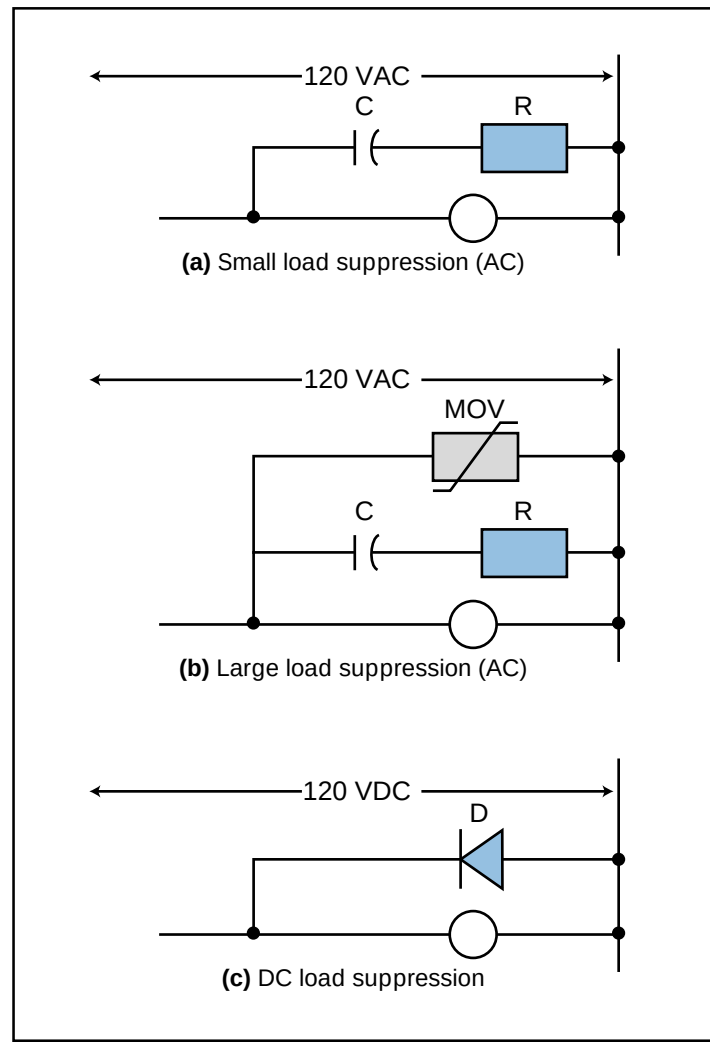

Figure 18. (a) Small, (b) large, and (c) DC load suppression techniques.
Suppression of Inductive Loads. The interruption of current caused by turning an inductive load's output OFF generates a very high voltage spike. These spikes, which can reach several thousands of volts if not suppressed, can occur either across the leads that feed power to the device or between both power leads and the chassis ground, depending on the physical construction of the device. This high voltage causes erratic operation and, in some cases, may damage the output module. To avoid this situation, a snubber circuit, typically a resistor/capacitor network (RC) or metal oxide varistor (MOV), should be installed to limit the voltage spike, as well as control the rate of current change through the inductor (see Figure 18).